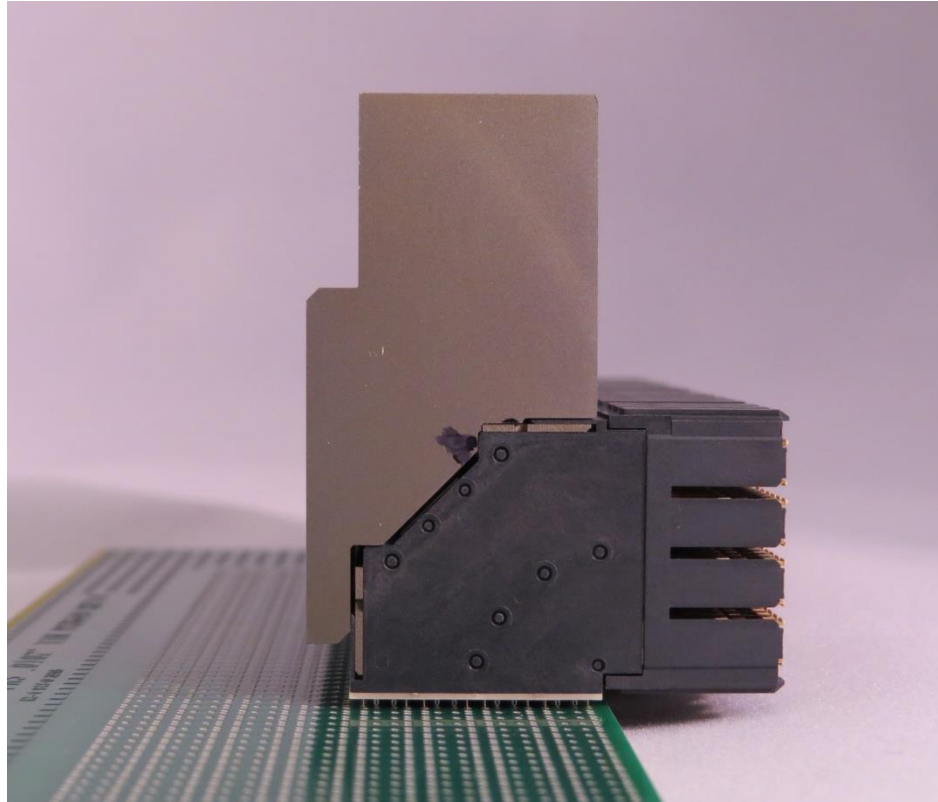
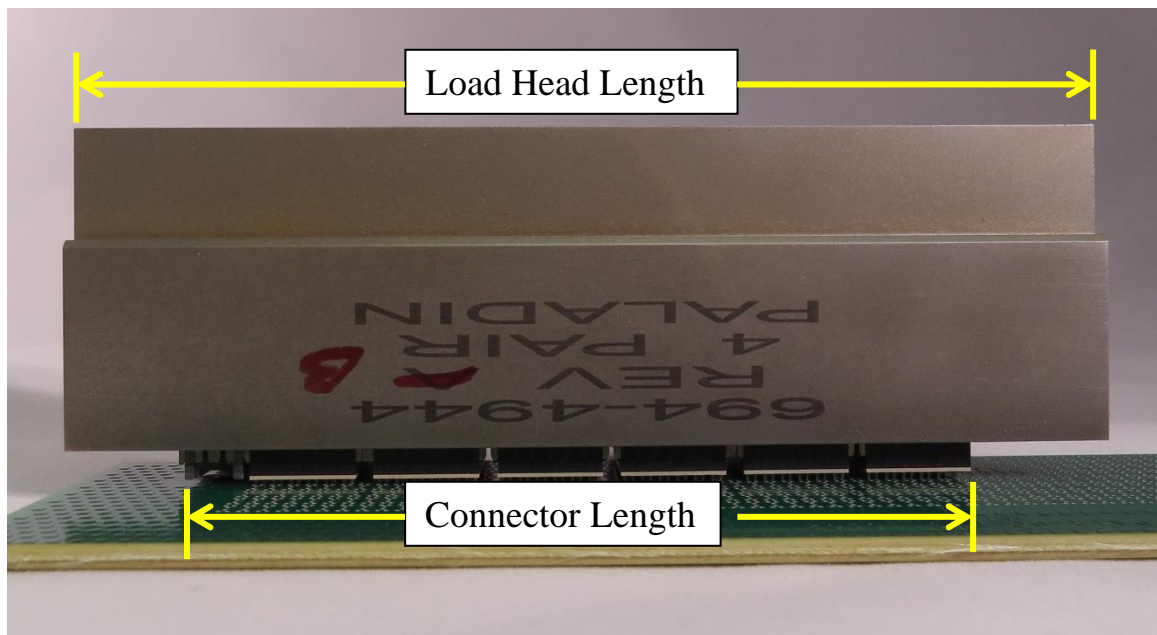

Figure 6: Proper 4 Pair loading head with a 4 pair connector.
Figure 7: Ensure that the load head length is equal to or greater than the connector length.
Step 7. Select the correct seating head based on the connector type and the length of the connector (see Figure 6). Ensure the seating head at a minimum is the same length as the connector (see Figure 7). Position the seating head directly on top of the connector, ensuring the clearance slot is over the wafer “retention hats” and the rear alignment rib is against the stiffener back (see Figure 6).